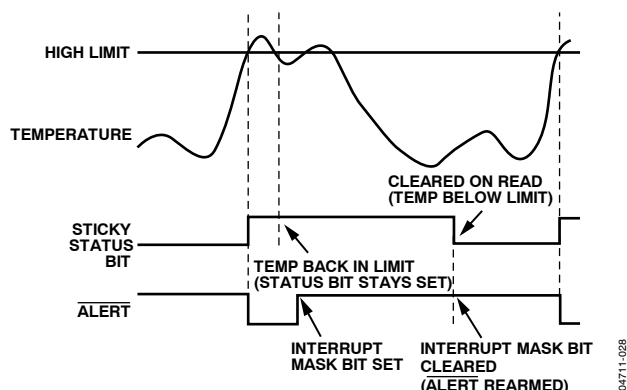

Figure 29. How Masking the Interrupt Source Affects **ALERT** Output
7. Periodically poll the status registers. If the interrupt status bit has cleared, reset the corresponding interrupt mask bit to 0. This causes the **ALERT** output and status bits to behave as shown in Figure 29.